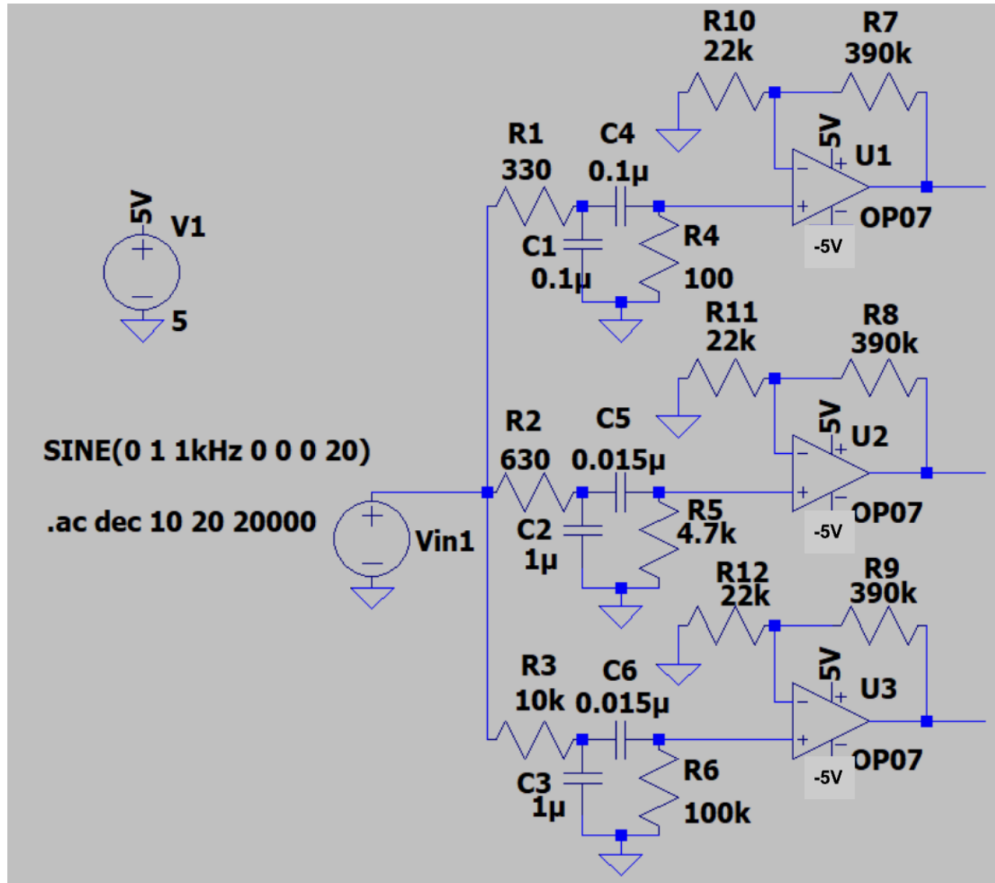

Figure 2: Schematic of three bandpass filters.
Next, students will construct three bandpass filters which each operate on the output of the audio amplifier as pictured in Fig. 2. The students will use three of the $22\text{ k}\Omega$ resistors, three of the $390\text{ k}\Omega$ resistors, three of the OP07 op amps, two of the $0.1\text{ }\mu\text{F}$ Capacitor, one $100\text{ }\Omega$ resistor, $630\text{ }\Omega$ resistor, and four of the $330\text{ }\Omega$ resistors, one $10\text{ k}\Omega$ resistor, two of the $0.015\text{ }\mu\text{F}$ capacitors, one $100\text{ k}\Omega$ resistor, one $4.7\text{ k}\Omega$. The top bandpass filter will be the high-frequency band, the middle will be the middle-frequency band, and the low will be the low-frequency band.
- (a) Using the rest of the materials, construct the output circuit shown in Fig. 2.